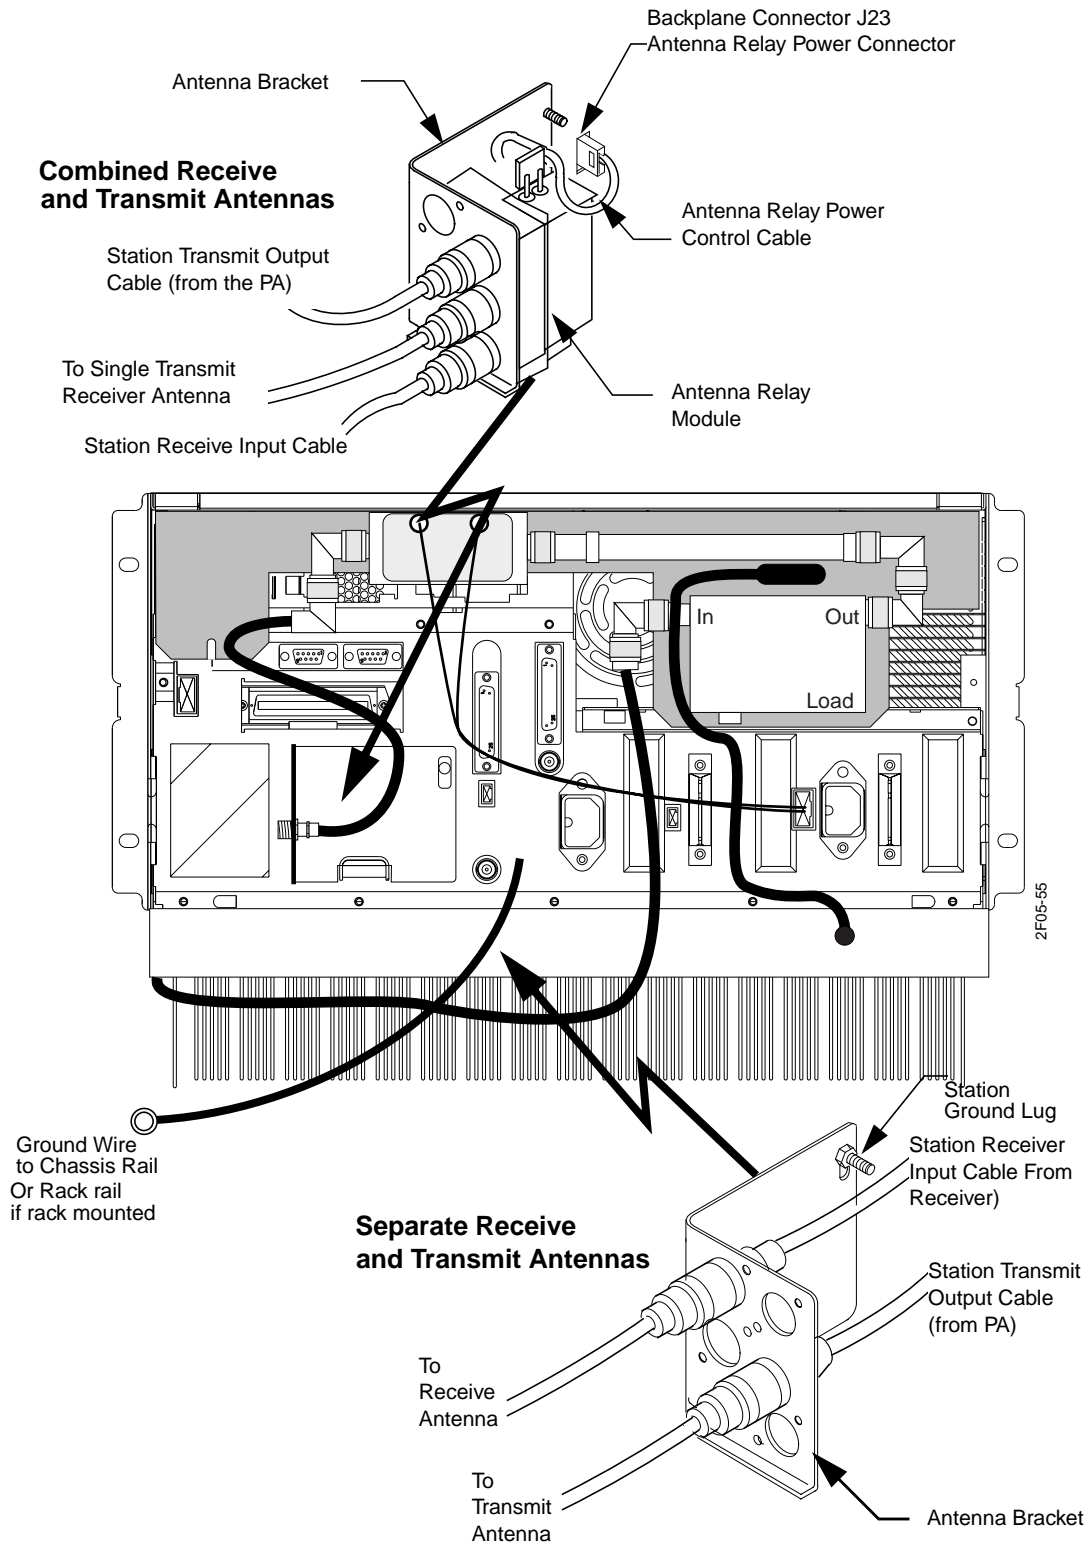

Figure 5-3: Backplane Connections for an Antenna With and Without Relay Module
- RF cables from the PA and Receiver are normally connected (see Figure 5-3)
Use the following procedure to install or verify installation of the cables (see Figure 5-3):
1. Inspect the antenna relay control cable. Ensure that it is securely attached to J23 (see Figure 5-3).
2. Connect the station receive input cable from the Receiver to the top connector of the antenna relay (see Figure 5-3).
3. Attach the transmit output cable from the PA to the lower antenna relay connector (see Figure 5-3).
4. Attach the cable from the antenna to the middle connector of the antenna relay (see Figure 5-3).
The internal transmit and receive cables meet and connect with the external transmit and receive cables through the antenna bracket (see Figure 5-3).
- Ground at the ground lug on the antenna bracket (see Figure 5-3).
The Nucleus station cage has a single ground lug located on the rear panel of the cage. Connect this lug to the rail of the cabinet or rack mount if it is a rack mounted station (see Figure 5-3).